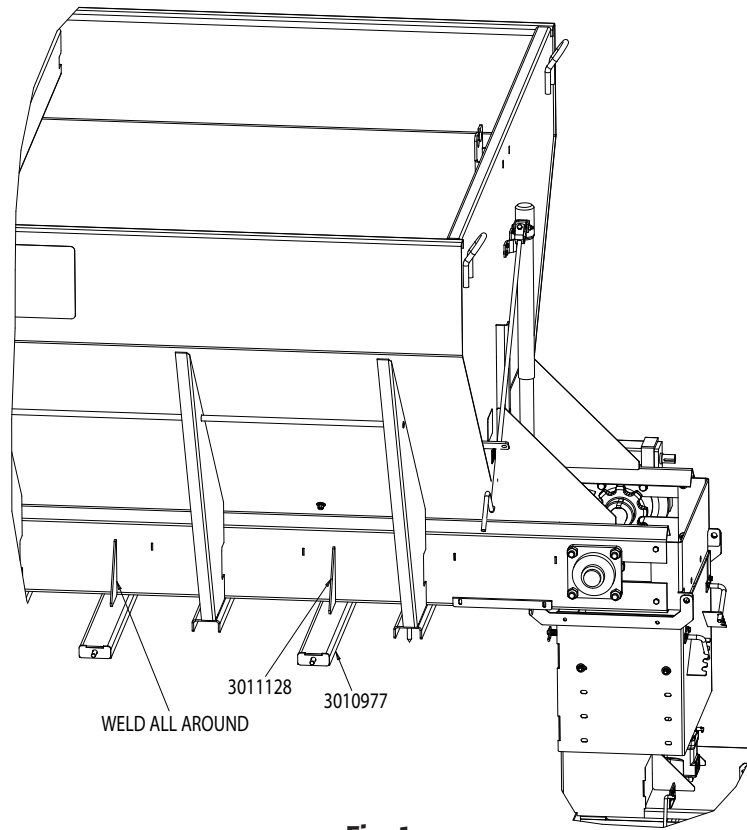

Fig. 1.
3. Position reservoir brackets (#3010977), gussets (#3011128) and bracket tie downs (#3011124) as shown in fig.2. Weld all parts in place as shown in fig.2 and fig.1 on both sides of spreader.